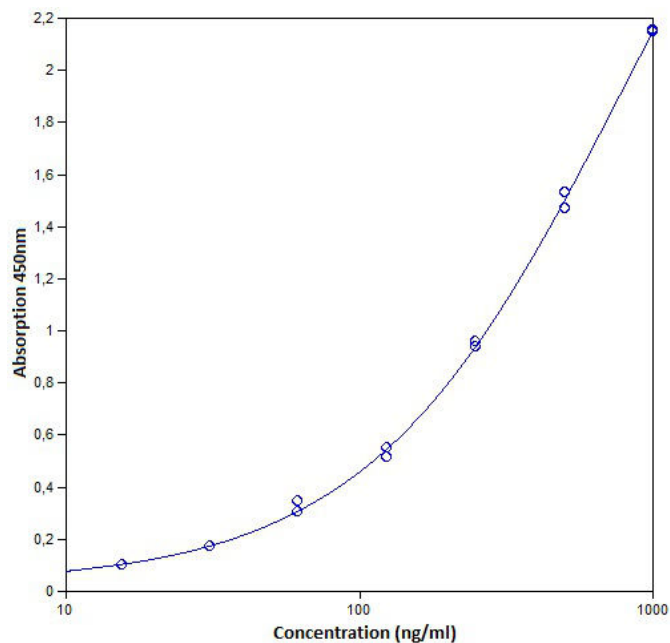

Fig. 7 Representative standard curve for human IgM ELISA. Human IgM was diluted in serial 2-fold steps in Assay Buffer (1x).
- A representative standard curve is shown in Figure 7.